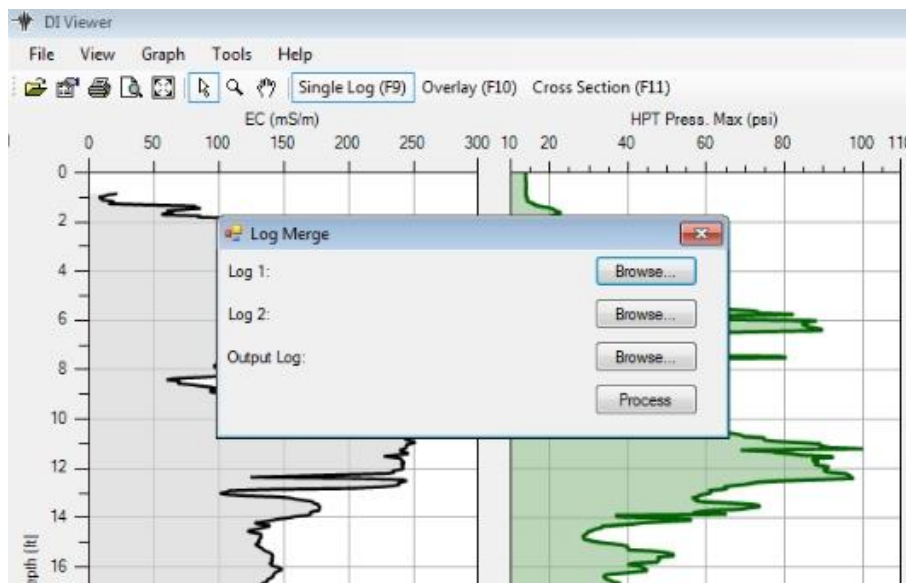

Figure 9: Pop up test box for the Log Merge Function
2. Select Log Merge which will pop up a text box (Figure 9).